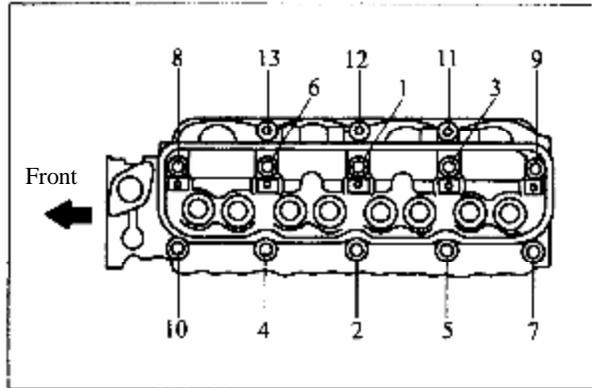

Figure 3-2 Tightening Sequence of Cylinder Head Bolts
Tighten the bolts after the gasoline engine has cooled down. The tightening sequence is as shown in Figure 3-2.
**3.1.3** After the gasoline engine has cooled down, follow the sequence that is reversed to these indicated in figure 3-2 to disassemble the cylinder head. Unscrew the bolts of cylinder head step by step in 3 times to avoid distortion of cylinder head.